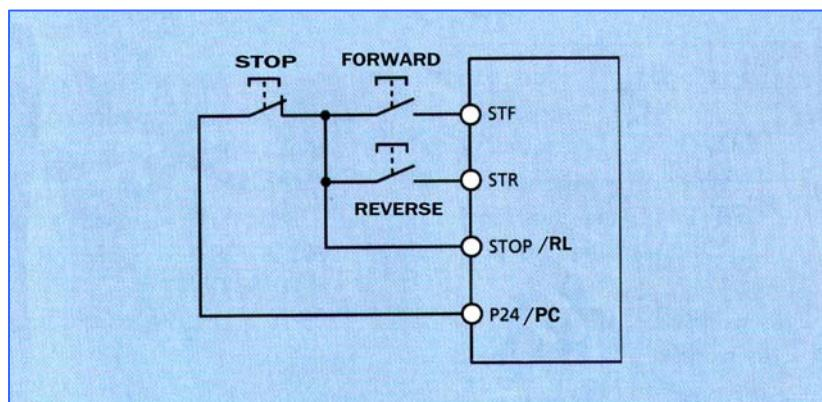

Fig.7.13 Start and stop connections with latching.
- Connect the circuit as shown in figure 7.13. Use the manoeuvre module.